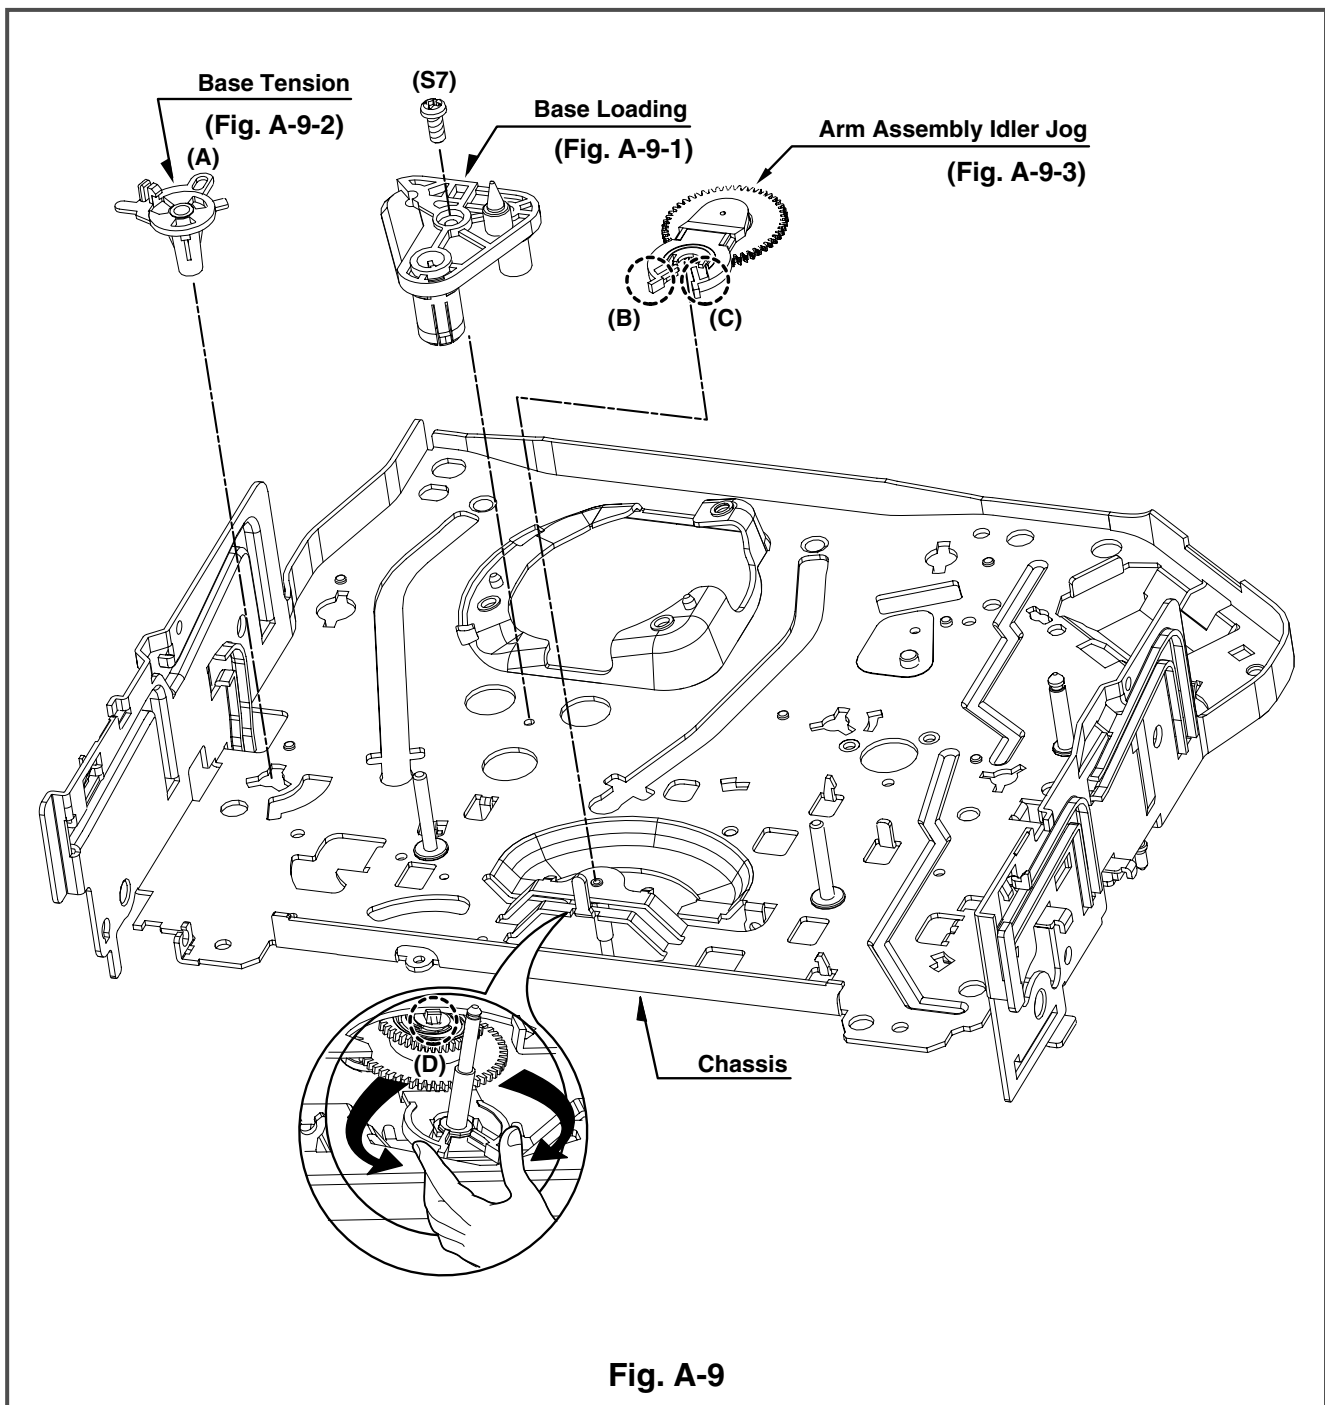

Fig. A-9
When disassembling, be careful not to be caught the (D) part by the Chassis as Fig. A-9.